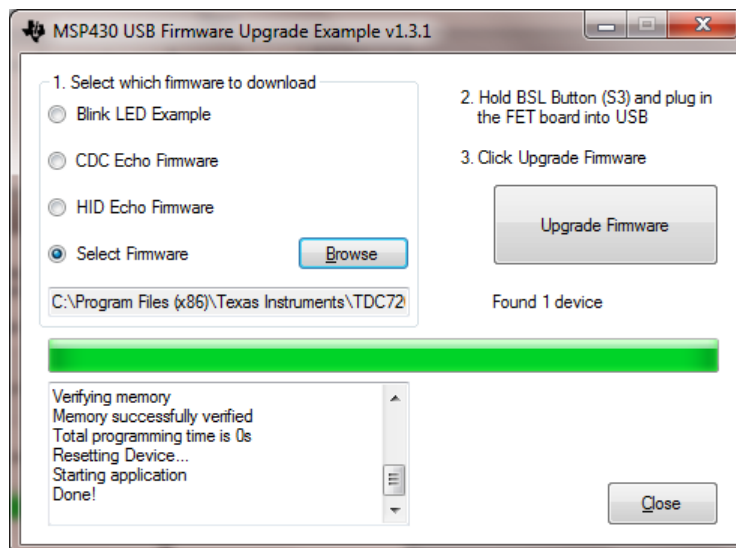

Figure 2. Upgrading MSP430 Firmware
6. On the MSP430 LaunchPad board, press the **BSL button** (S5 or S3) and **connect the MSP430 Launch Pad to your PC** using a **USB cable**. If detected, the text on the Firmware Upgrade tool changes from No device connected to **Found 1 device**. See Figure 2.